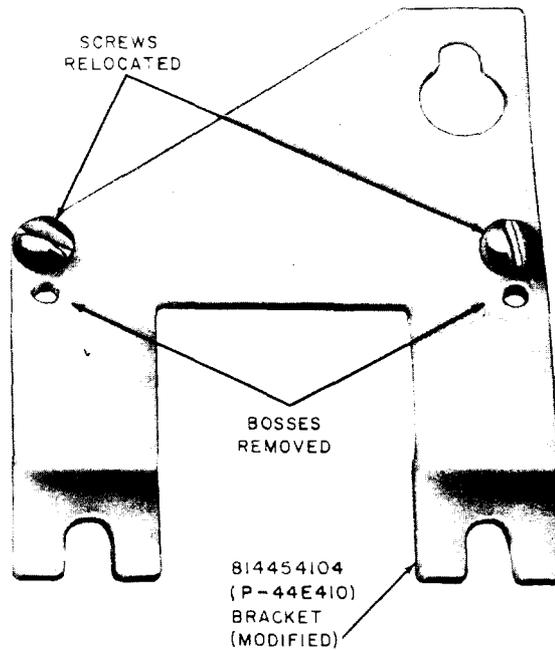

Fig. 17—Buzzer Mounting Bracket Assemblies
**Note:** Telephone sets manufactured between June 1964 and April 1966 and equipped with a one-piece bezel must have the 814454096 (P-44E409) bracket assembly [includes modified 814454107 (P-44E410) bracket, Fig. 17] installed before the KS-8109L2 buzzer can be mounted.